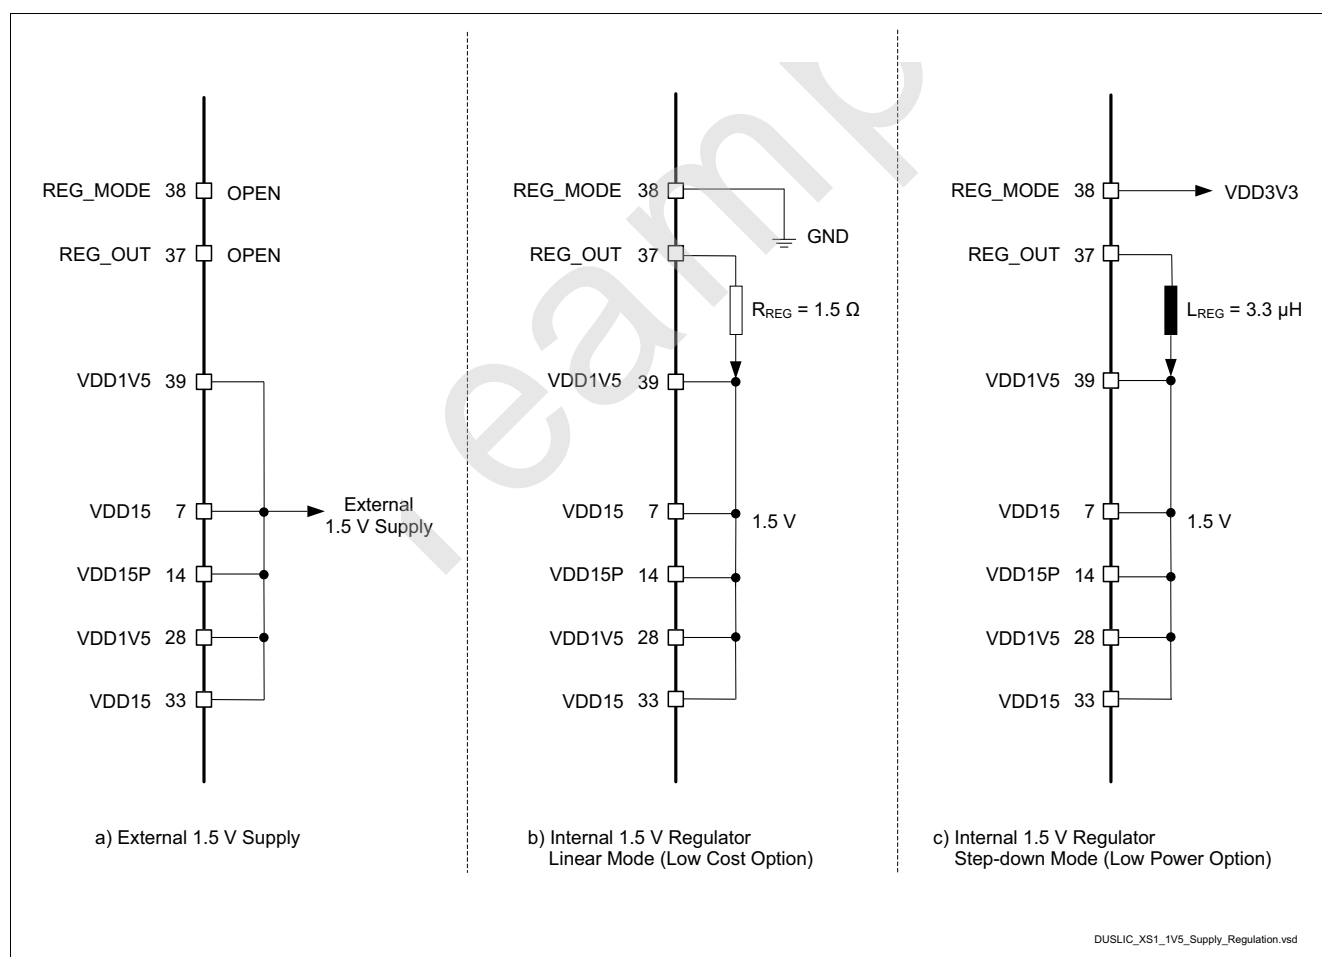

Figure 3 1.5 V Supply Regulation
The DXS Series device is either operated using an external 1.5 V supply, or by taking advantage of its integrated 1.5 V regulator in systems where a 1.5 V supply is not available. When an external 1.5 V supply is used, the REG_MODE pin must be left open, allowing the device to be supplied from this external 1.5 V source (see Figure 3 a\)).
- For lowest cost applications, select linear mode by connecting the REG_MODE pin to GND. Add a 1.5 Ω resistor between REG_OUT and VDD15 (see Figure 3 b\)). The regulator operates as an LDO.
- When the lowest possible power dissipation is desired, connect the REG_MODE pin to VDD3V3 and place a coil of approx. 3.3 μH between REG_OUT and VDD15 (see Figure 3 c\)). The regulator operates in step-down mode with an efficiency of approx. 80%.